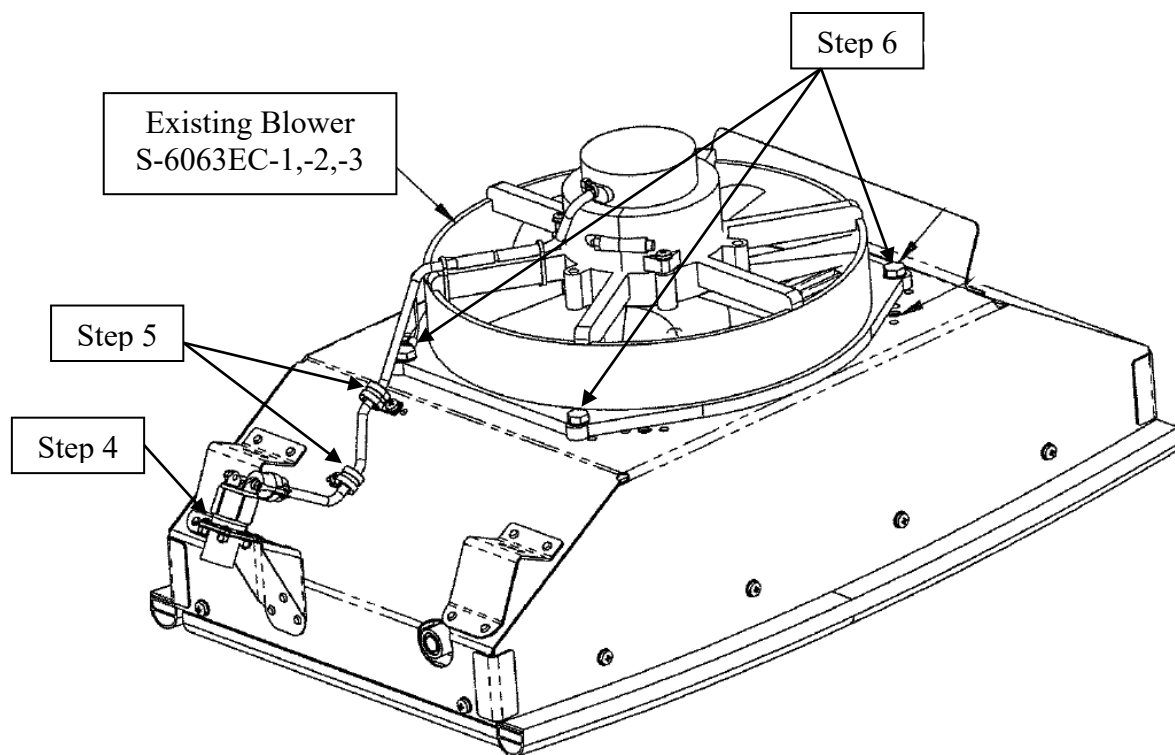

Figure 1. Existing blower on the condenser assembly
Removal: (See Figure 1)
3. Disconnect the blower electrical connector (see Fig. 1).